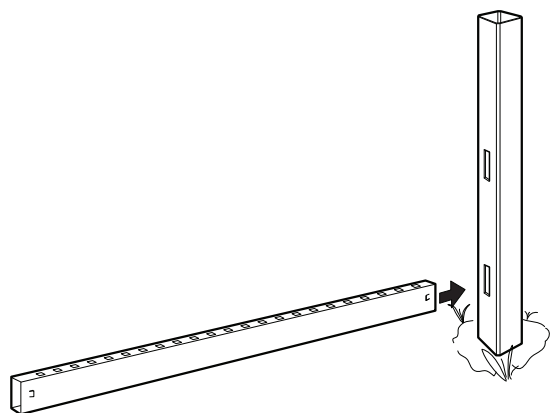

fig. 4
STEP 2 – Slide the reinforced bottom rail into place at the bottom of the routed post (fig. 4).